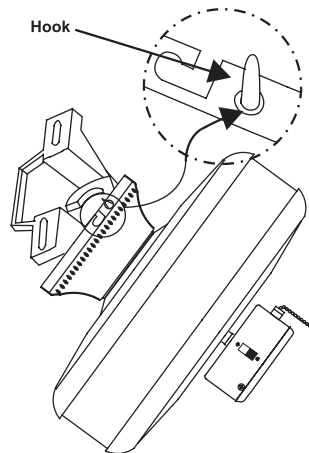

Fig.9
6. Hang the fan on the hook of the hanger bracket. Be certain that the canopy is fully locked into hook as shown in (Fig.9). This will allow you to make the electrical connections.
Remove the fan from the hook on the hanger bracket (Fig.9). Secure the canopy to the hanger bracket by placing screws into slot in canopy. Twist clockwise to lock in place, tighten four screws firmly. (Fig.11)